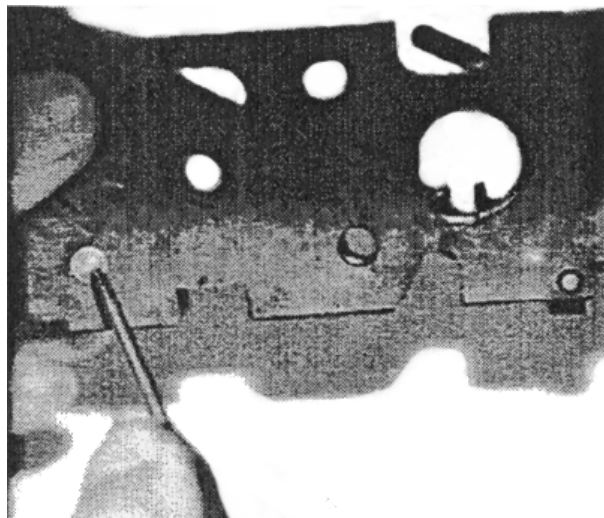
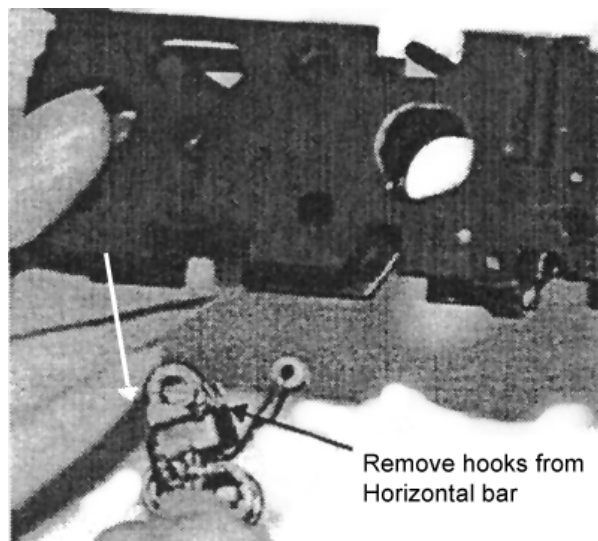

Figure 21
Figure 22
- Push out *catch axle* with a punch. (Fig. 21) Bring *catch assembly* out the bottom of the housing. (Fig. 22)
- Remove the hooked ends (dead end) of the *elbow spring* from the horizontal bar of the *catch* (Fig. 22)